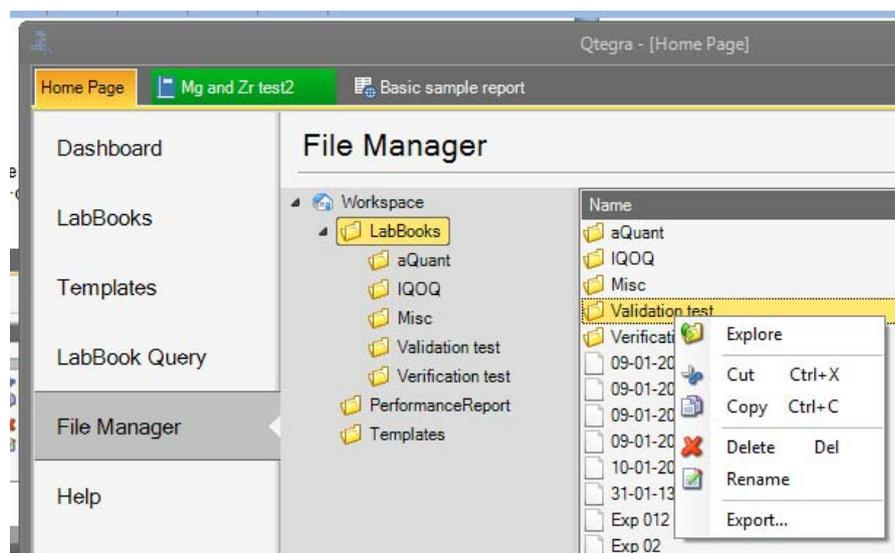

Figure 6-40. Exporting a LabBook
1. From the Home Page, go to File Manager, right-click a LabBook and select **Export** from the menu. See Figure 6-40.